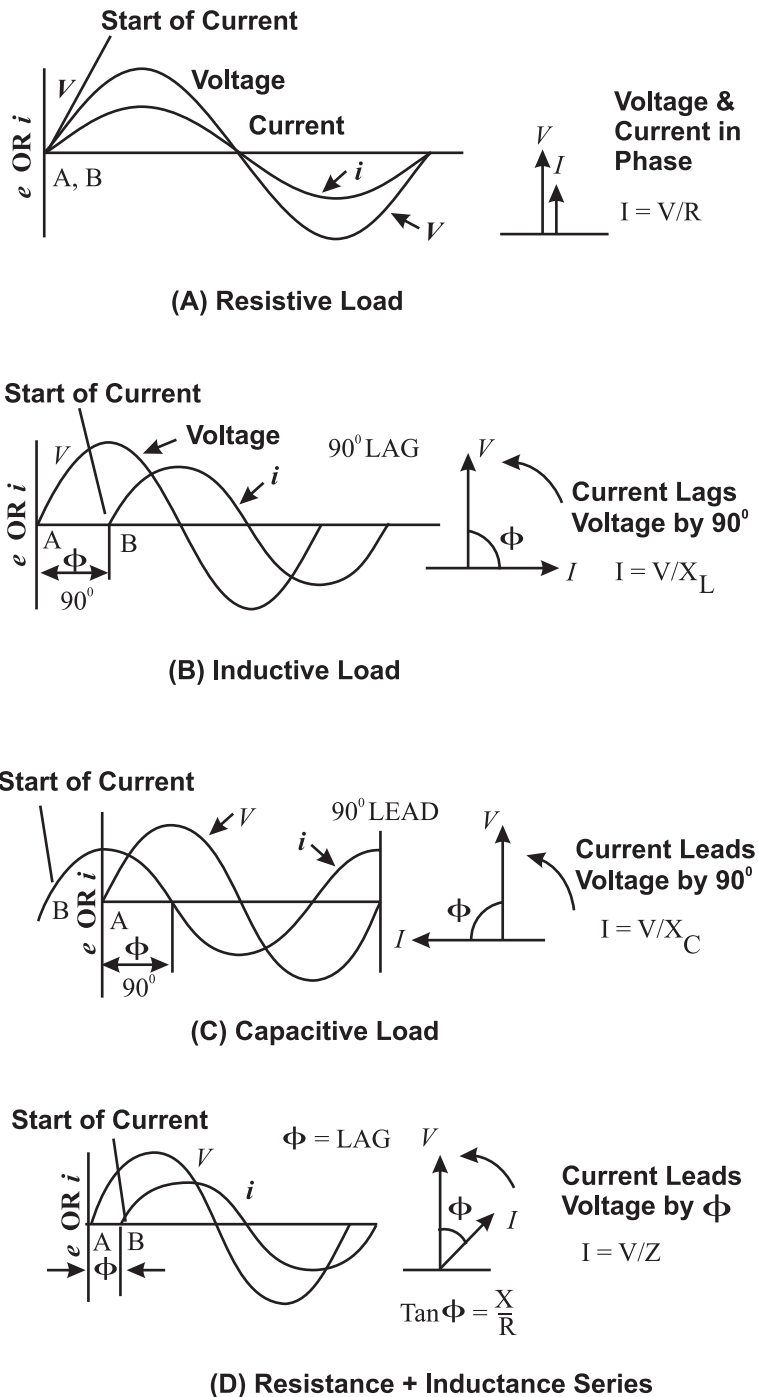

Figure 7.2: Graphical representation of voltage for different types of load.
When a sinusoidal AC voltage is applied to the equipment, the current varies according to the type of load. The load may be resistive, inductive or capacitive. Figure 7.2 shows the graphical representation of relationship between the applied voltage and the resultant current produced by it for various types of loads.
In Figure 7.2(A) to 2(D), X-axis represent the angle travelled in degrees and Y-axis represent the amplitudes of both voltage and current waves. The location of start of voltage cycle (**point A**) and start of current cycle (**point B**) in Figure 7.2(A) to 2(D) may be noted for different types of loads. When the load is pure resistive,
As seen in the Figure 7.2 above, when AC voltage is applied to any load which is not purely resistive, the current produced may not be in phase with the applied voltage. Current may lead or lag from the applied voltage by some angle. Usually the angle is represented by symbol ϕ (phi). *Cosine of this angle ($\cos\phi$) is called the power factor of that load.* Ideally, power factor (P.F) is unity for a pure resistive load ($\phi=90^\circ$, $\cos 90 = 1$). It is less than unity for reactive (non resistive) loads. Low power factor reduces the true power thereby reducing the efficiency of the system.